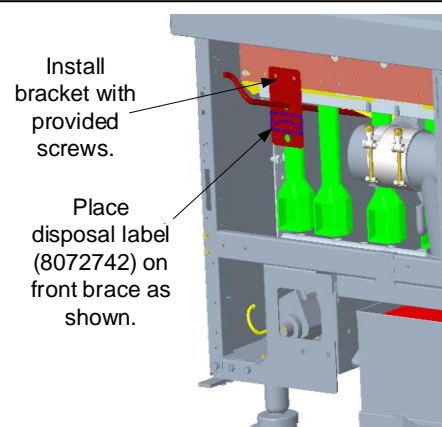

Figure 5: Front View
10. Slide bracket onto the dispose handle rod. Attach the bracket from the bottom into the horizontal brace, using the existing holes and the provided screws. See Figure 5. (**Note:** It may be necessary to drill two 9/32" pilot holes to attach the screws.)
11. Attach the oil disposal label (8072742) to the front cross brace. See Figure 5.